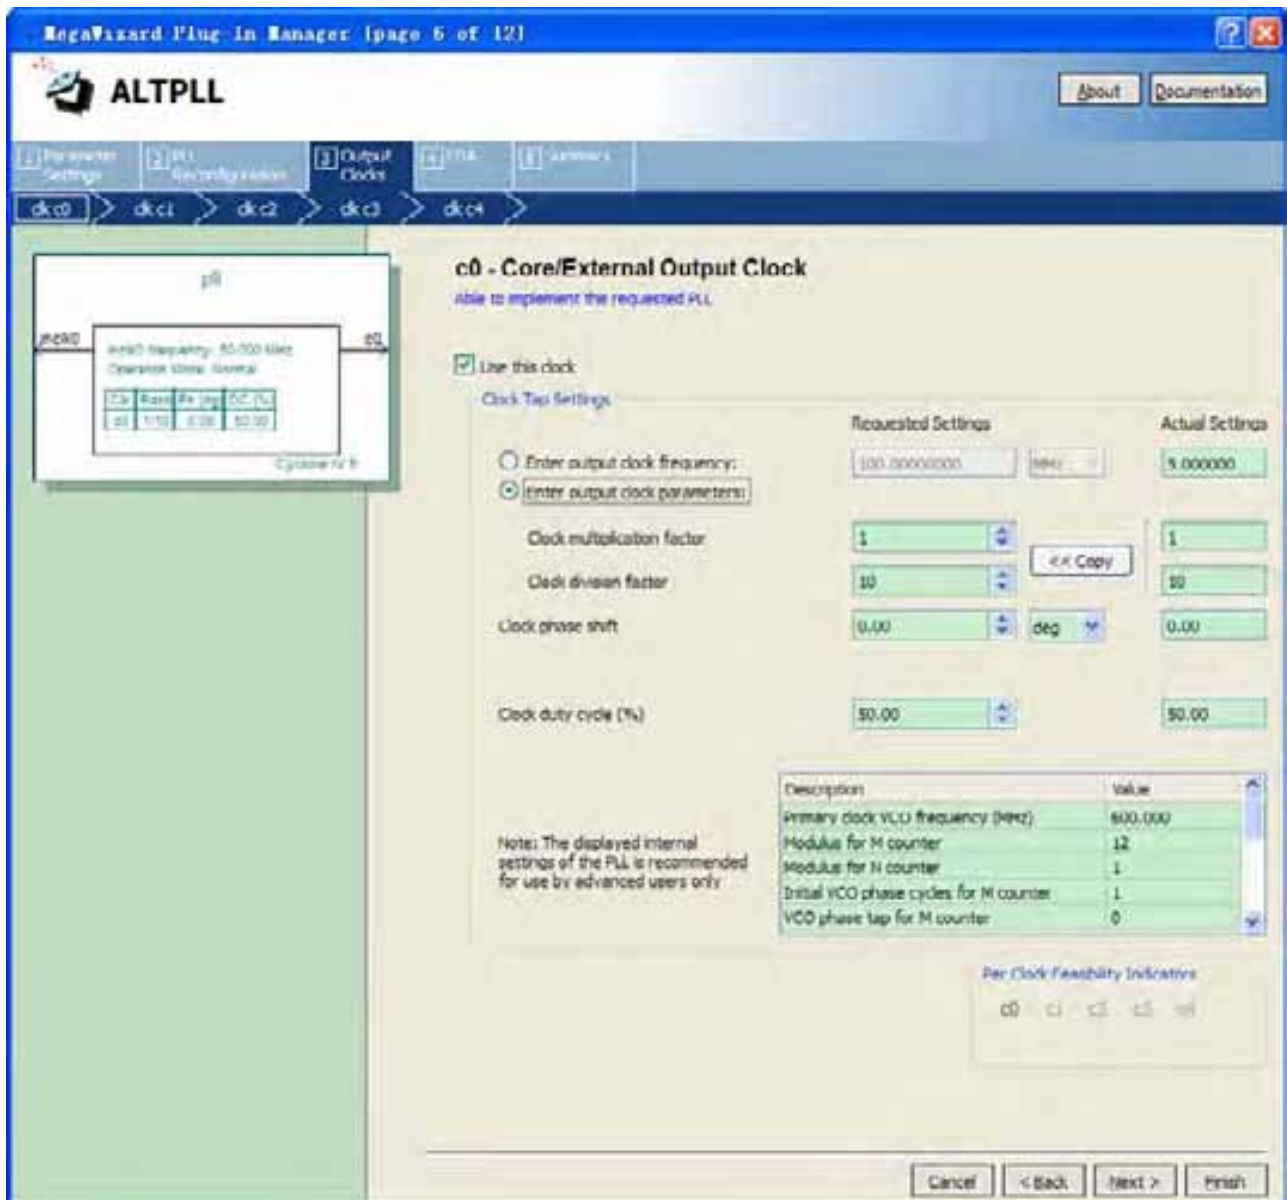

Figure 6-23 MegaWizard Plug-In Manager [page 8 of 14] Selections
- Set the Clock division factor to 10, as shown in **Figure 6-23**.